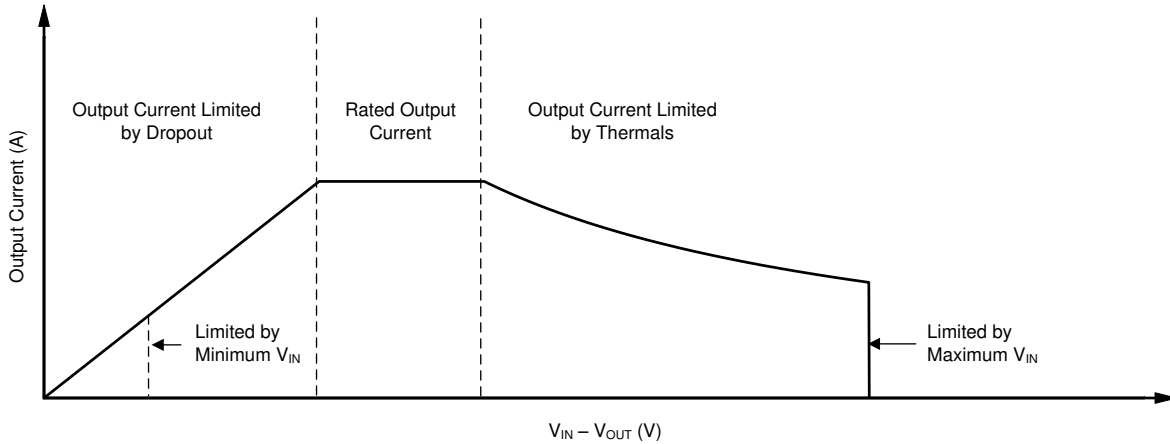

Figure 8-3. Continuous Operation Diagram With Description of Regions
The operational area of an LDO is limited by the dropout voltage, output current, junction temperature, and input voltage. The recommended area for continuous operation for a linear regulator is illustrated in Figure 8-3 and can be separated into the following regions:
- Figure 8-3 provides the shape of the slope. The slope is nonlinear because the maximum rated junction temperature of the LDO is controlled by the power dissipation across the LDO; thus, when  $V_{IN} - V_{OUT}$  increases the output current must decrease.